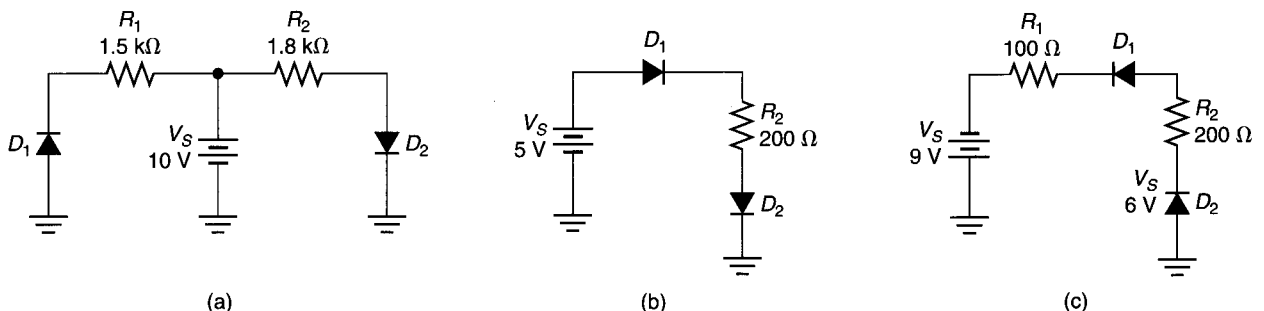

FIGURE 2.45
5. For each of the circuits shown in Figure 2.45, determine the direction (if any) of diode forward current.